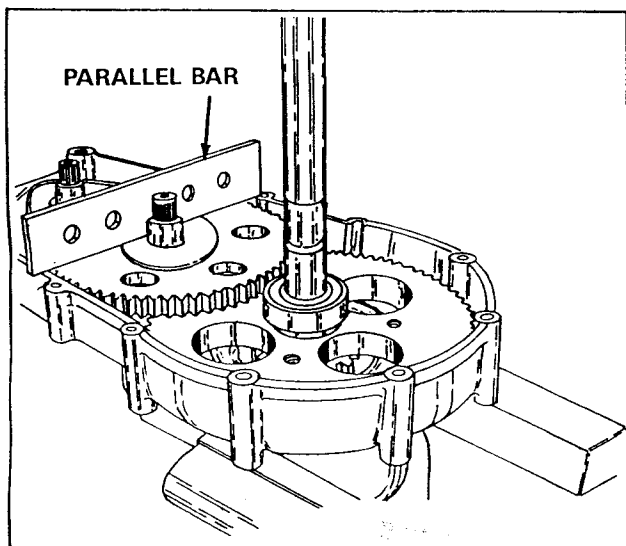

FIGURE 19
- 8.08 Use a parallel bar across housing. See figure 19.
- 8.09 With a feeler gage, depth micrometer, or calipers, measure the distance between the parallel bar and the reduction gear thrust face. See figure 19.